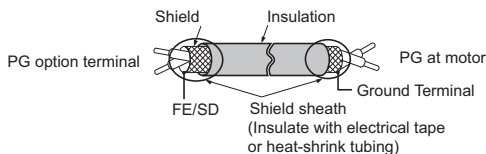

Figure 16 Prepare Ends of Shielded Cable
4. Prepare the wire ends as shown in Figure 16.